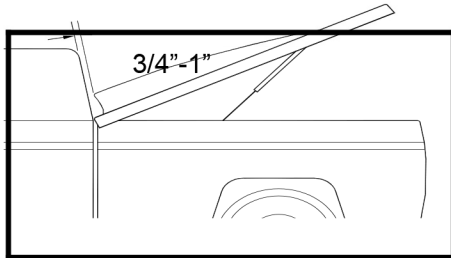

Figure 1A
**1A** Place the Speed Bump on the lid behind the driver's seat so that when the lid is fully opened, the top of the Speed Bump is  $3/4"$  -  $1"$  away from the rear window. See figure 1A. Mark the location of the front edge of the Speed Bump on the lid with masking tape.